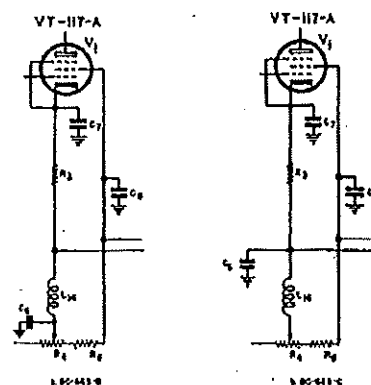

Fig. 16
(d) In BC-669-B r-f choke L_{18} is connected between resistor R_4 and resistor R_3 to provide, in conjunction with capacitor C_6 (connected from the movable tap of R_4 to ground), additional filtering of noise produced by R_4 . (See Fig. 16 a.)
(e) In BC-669-C (also BC-669-B on Order No. 32780-PHILA-43) C_6 is connected between r-f choke L_{18} and resistor R_3 , for the same purpose. (See figure 16 b.)
- (1) See Fig. 16 for change in BC-669-B, and BC-669-C.
- (5) Meters provided are antenna current meter M_1 and milliammeter M_2 . (See figures 16 and 18.)